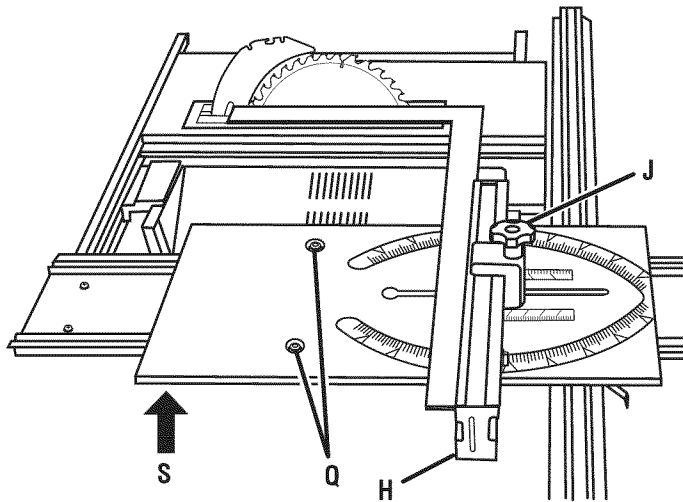

Fig. 42
- Push left rear of miter table snugly against miter base as shown by the arrow (S) in figure 42 and secure.